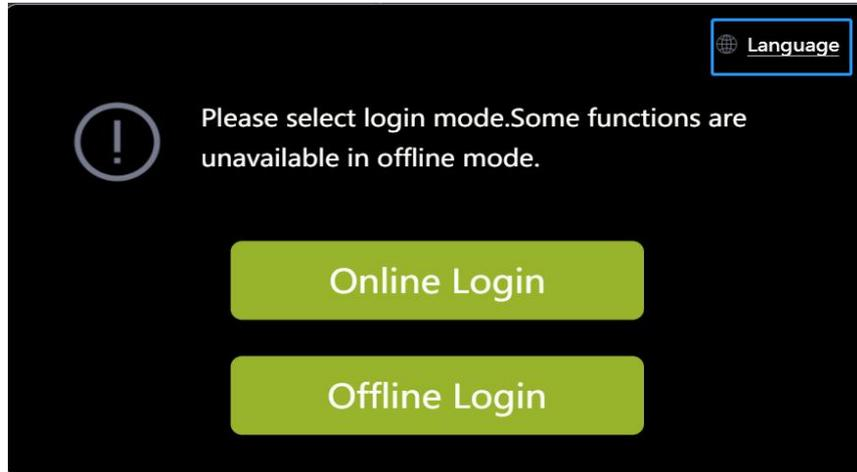
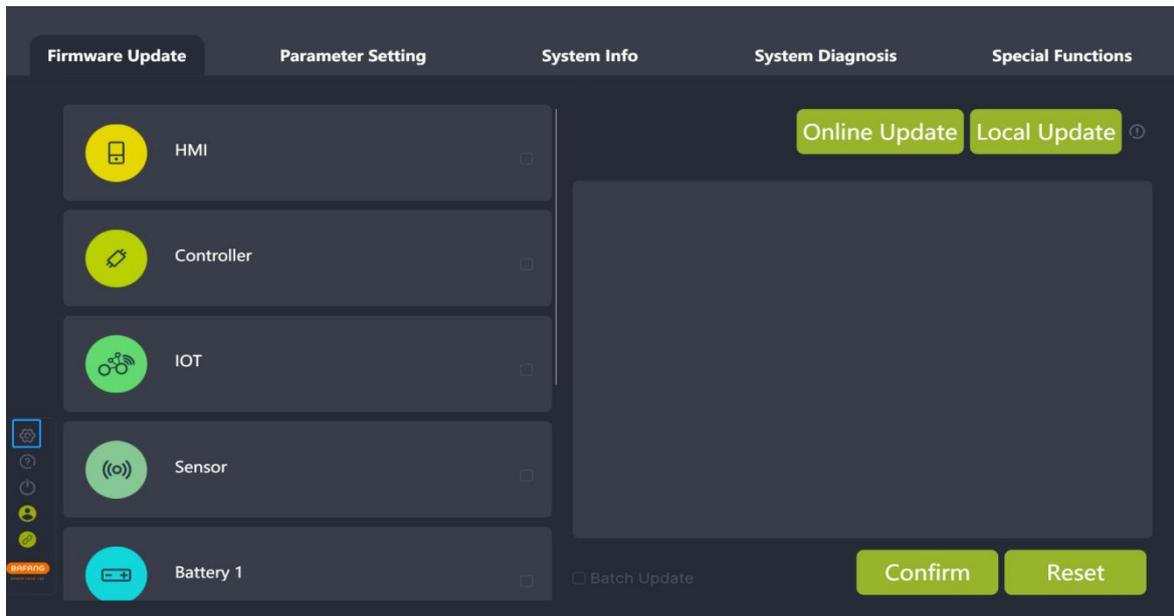

Fig. 9-1 Language
Fig. 9-2 Language
- (1) Set the language in the right corner of the Login interface (Fig.9-1) or click "Settings" on the left interface (Fig.9-2).
- (2) Select your desired language in the drop-down list.
- (3) Click "Restart" to restart the software and the setting will take effect.
- (4) **Tip:** For the MAC version, click "Close" and restart the software manually and the setting will take effect.